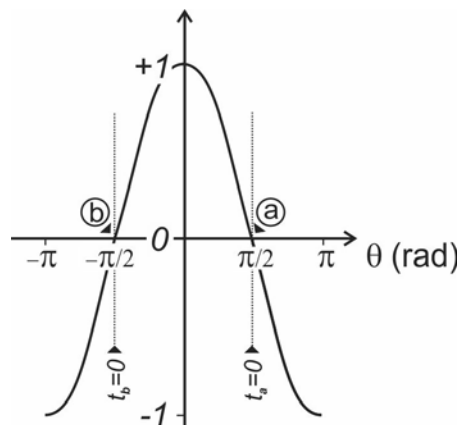

Figure 4: The cosine function
3. Here we again have that $y = 0$ at $t = 0$, but now the graph continues along a different path - upwards instead of downwards as in the previous case. Note that due to the symmetry of the cosine function - see **figure 4** - that both the positive and the negative angles are possible solutions to the equation
According to **equation 6** we have that at $t = 0$, $\theta = \phi$ and as time progresses the value of θ will steadily increase from this angle onwards. Looking at **figure 4** below (note the x-axis is θ), we see that if we were to choose the solution $\theta_0 = \phi = \pi/2 \text{ rad}$ (point a), then the graph of oscillations, would continue downwards. But if we take the solution $\theta_0 = \phi = -\pi/2 \text{ rad}$ (point b), then the graph will continue upwards. So, in case 3